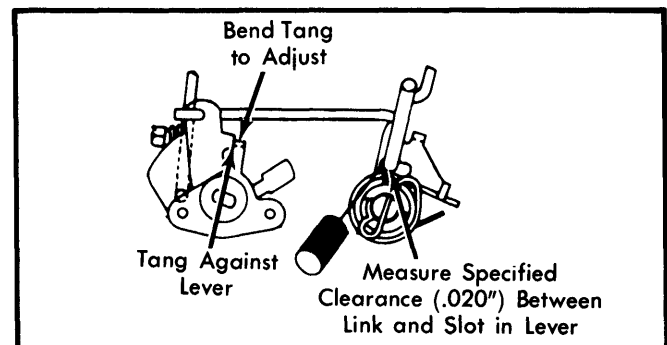

Fig. 13 Adjusting Secondary Throttle Closing Linkage
1) Engine idle speed must be correctly adjusted. Hold choke valve wide open and make sure fast idle cam follower is off fast idle cam steps. See Fig. 13.